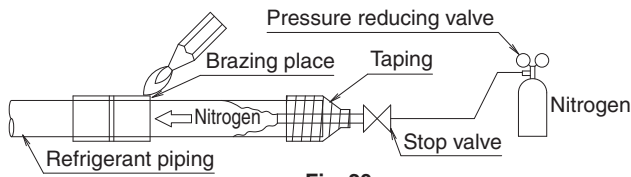

Fig. 20
- Before brazing refrigerant piping, have nitrogen flow through the refrigerant piping and substitute air with nitrogen. Then, carry out brazing (NOTE 2). (Refer to Fig. 20) After all the brazing works are finished, carry out flare connection with the indoor unit.